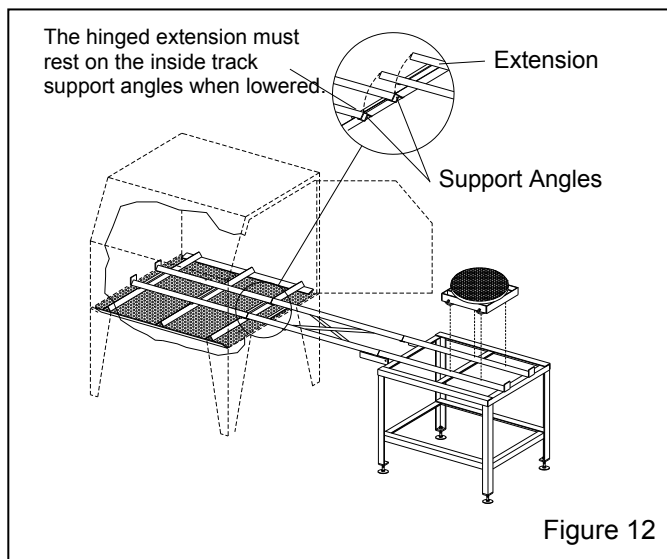

Figure 12
3.5.3 Position the track support table and extension as shown in Figure 12. When the hinged extension is lowered, the extension tracks must rest on the angled locating supports welded to the bottom of the inside tracks, and butt against the inside tracks.